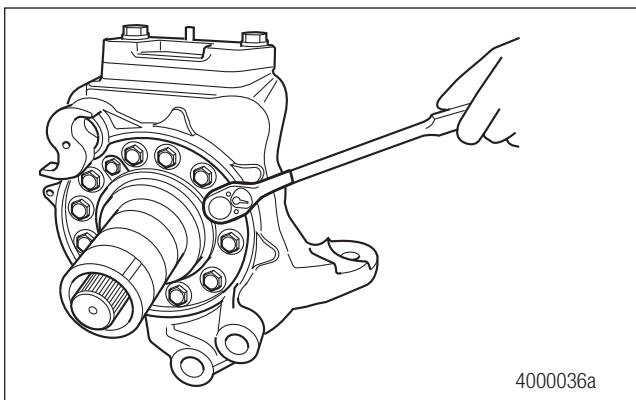

Figure 4.18
1. Remove the capscrews that secure the brake assembly and spindle to the steering knuckle. Figure 4.18.